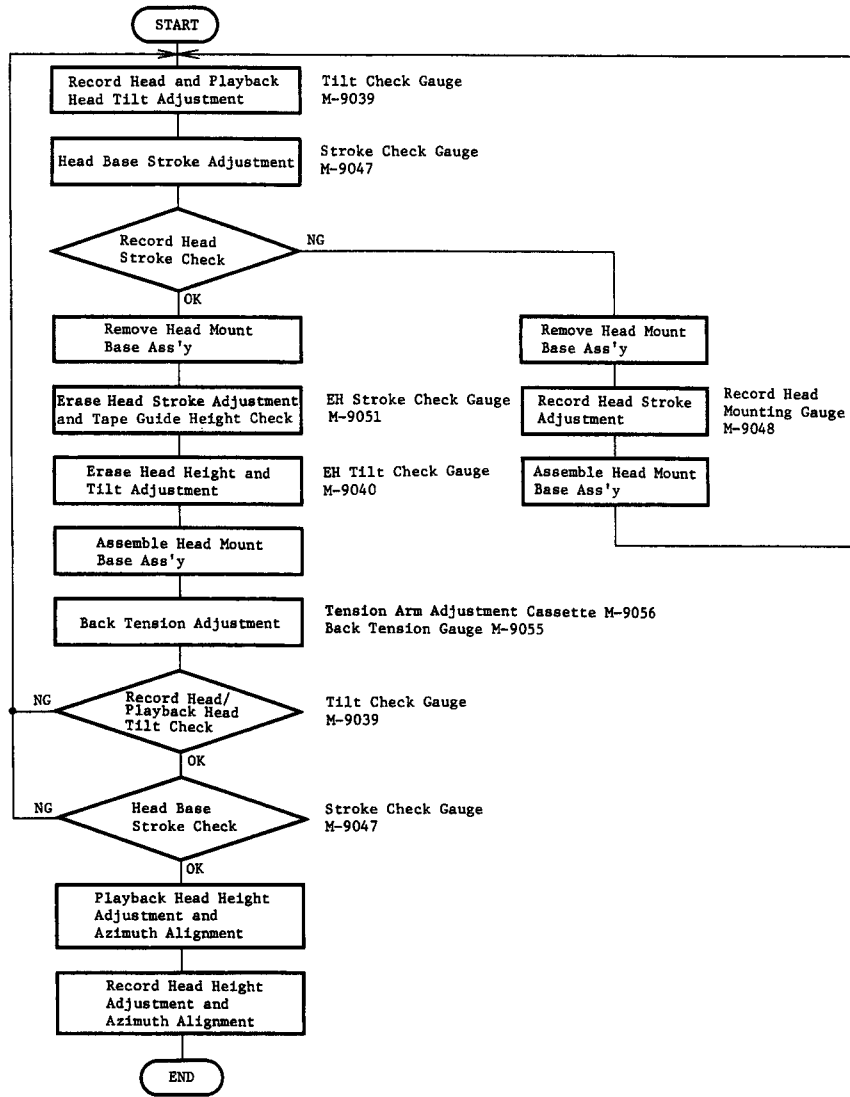

Fig. 4.4
Note: On items 4.3 — 4.9, refer to Fig. 4.4 flow chart.